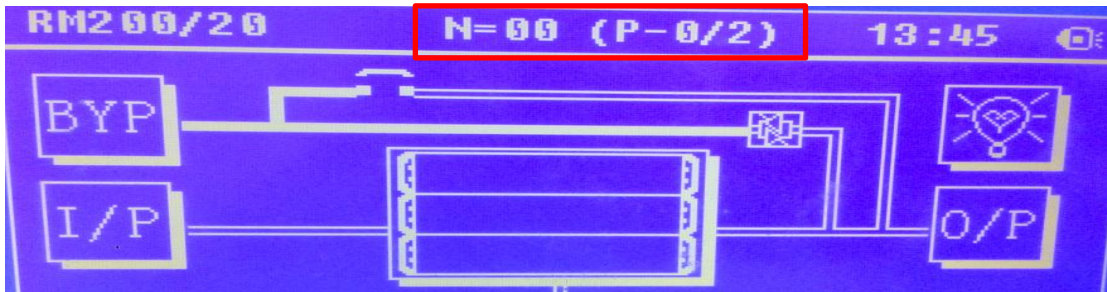

Fig3.2 Parallel system UPS1
3. Restart this UPS to check settings. Panel show as fig3.2. Then turn OFF this UPS.
4. Then modify UPS 2, Panel show as fig3.2. Then turn OFF this UPS.